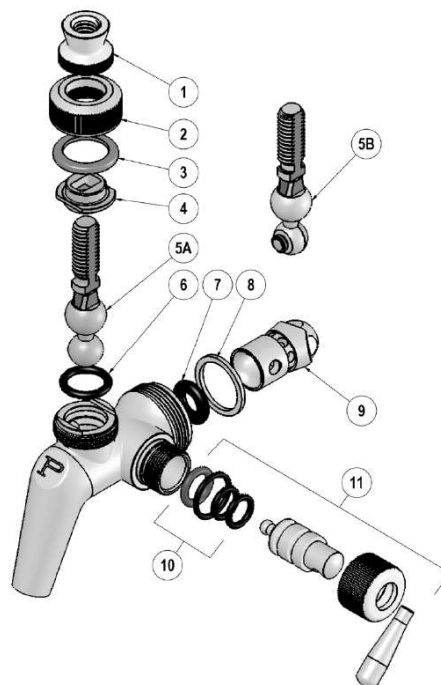

Figure 1 (Perlick, 2014)
Refer to Figure 1 below. Remove the tap handle if you still have one on the faucet. Next, remove the handle jacket (1) from the handle lever. Unscrew the compression bonnet (2) and remove it and the bearing cup (4) from the handle lever. Lift upward on the handle lever (5a) and push back slightly to remove it from the faucet. Set the handle lever aside, this is one of the parts you will be passivating.
Refer to Figure 1 above for an exploded diagram. Slide the flow-control compensator (9) in from the rear of the faucet. The open end goes in with the rounded end out. Note that there is a single hole in the smooth part on the side of the compensator that corresponds with the pin on the flow control barrel. This hole should be visible through the hole in the faucet body for the flow control assembly.